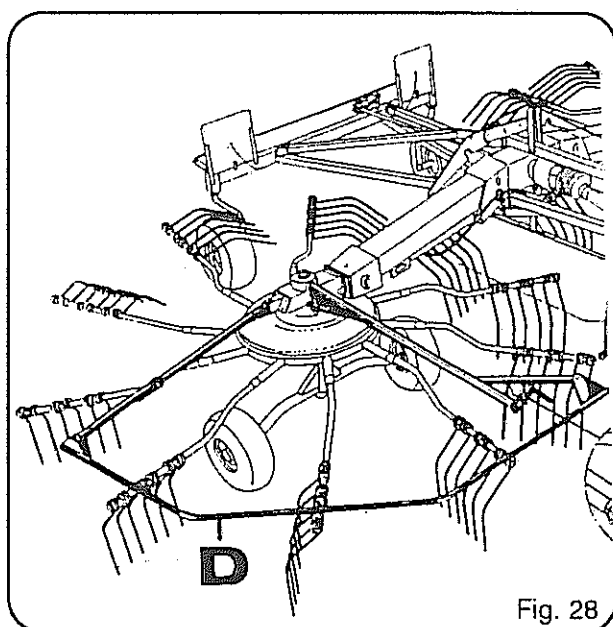

Fig. 28
- Tilt back safety guard (fig. 28 or 29).